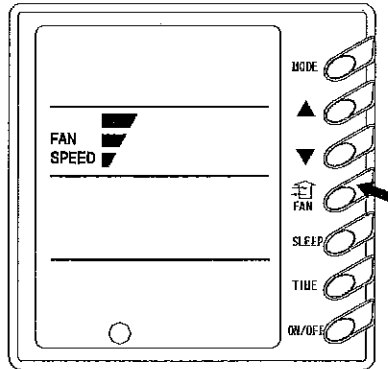

Fig 3
2) Fan Control (Figure 3)(The figures show the relevant display areas. The relevant figures hereafter also show the display areas)